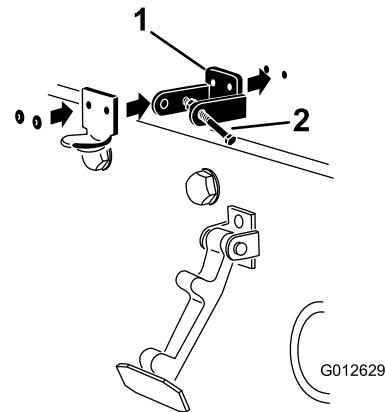

Figure 35
4. Rivet the brackets and the washers to the hood (Figure 35).